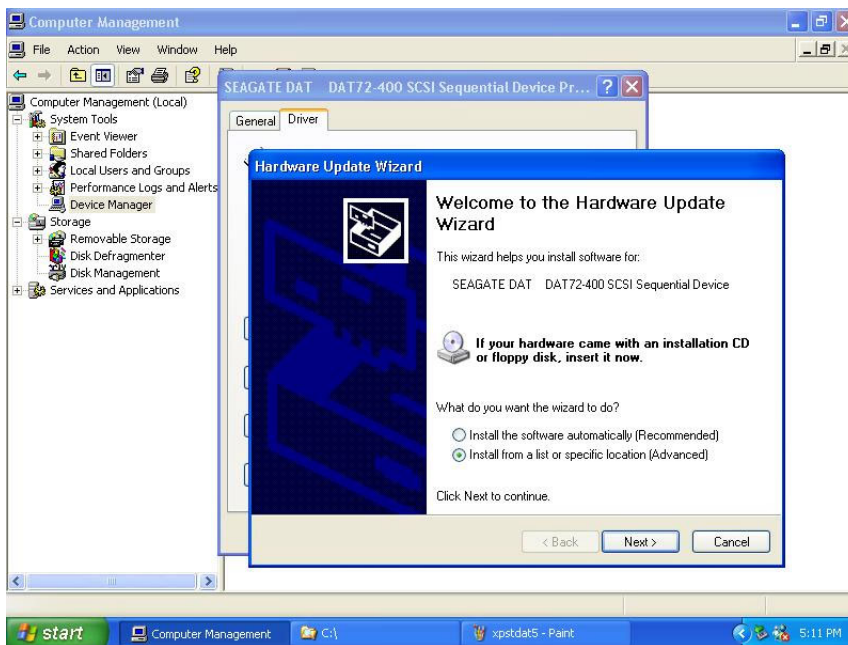

Figure 18. Hardware Update Wizard
5. Click the **Update Driver** button. The Hardware Update wizard in Figure 18 on page 34 appears.